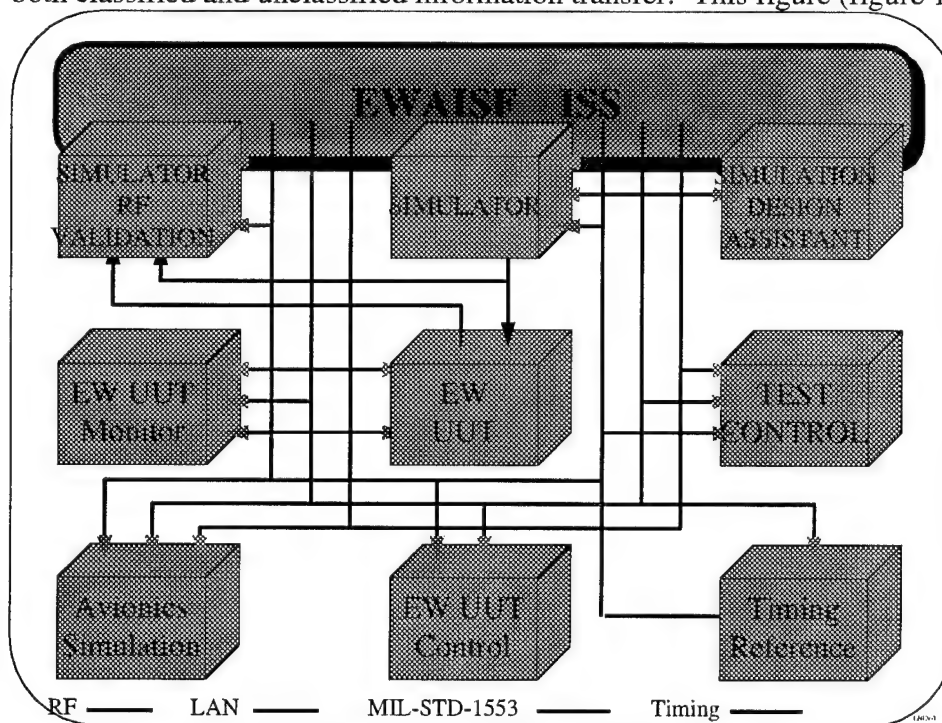

Figure 11
The basic building block for the EWAISF is the Integrated Support Station (ISS). ISSs exist within the EWAISF to support software change development, test, and other system support activities. The heart of each ISS is the EW system which is implemented as hardware, simulated or hybrid entities. Simulation capability, especially threat simulations, is an important component of each ISS and our test methodology. Figure 11 shows in block diagram form the composition of an EWAISF ISS. Brief description of each component is as follows: 1) The EW UUT -- the component which includes the hardware, firmware and software of the EW system (unit under test). In our implementation, not all EW system components are necessary. 2) The EW UUT Control -- this component may be the EW system's own processor(s) or a separate computer which allows controlling system functioning. 3) The EW UUT Monitor -- this
component is specialized and general test equipment which provide instrumented data collection and analysis capability. 4) Simulator -- component which provides the Radio Frequency (RF) threat environment. We also have one IR threat simulator. Our current threat library is mostly in the RF spectrum. 5) Avionics Simulation -- this component provides other signals such as navigational data. 6) Test Control -- The function of this component is to provide some level of automated test sequencing and scoring of EW system performance. The concept is in the third phase of implementation in the EWAISF. 7) Simulation Design Assistant -- This component is to provide some design and implementation assistance for threat simulations. In this effort, we have completed a concept demonstration. 8) Process Monitoring & Control -- This component is to allow enhanced event correlation and time synchronization and to provide RF threat simulation status and parameter monitoring. Automation of this component is being pursued. 9) Timing Reference -- Component to establish basic timing synchronization between the ISS components. 10) Computer networking, databus, and RF cabling -- this component provides for both classified and unclassified information transfer. This figure (figure 11) is related to figure 3